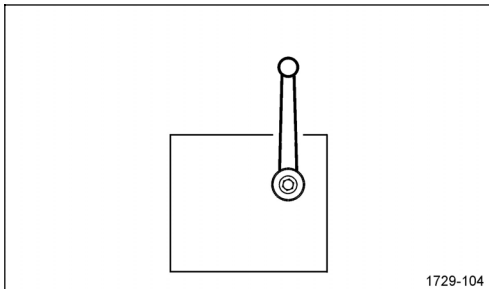
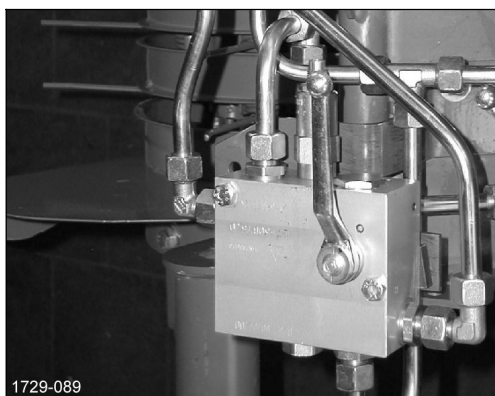
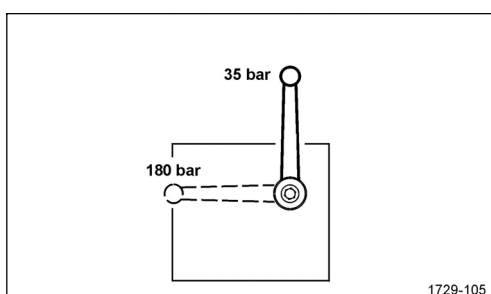

Figure 63
Figure 64
Figure 65
**Note!** For normal production the ball valve must point to the machine (see Figure 63 and Figure 64)!
- ❑ Swivel ball valve (Figure 64) beneath the left side cover to the front: 180 bar (Figure 65).
- ❑ Swivel ball valve (Figure 64) back to the machine: 35 bar (Figure 65).